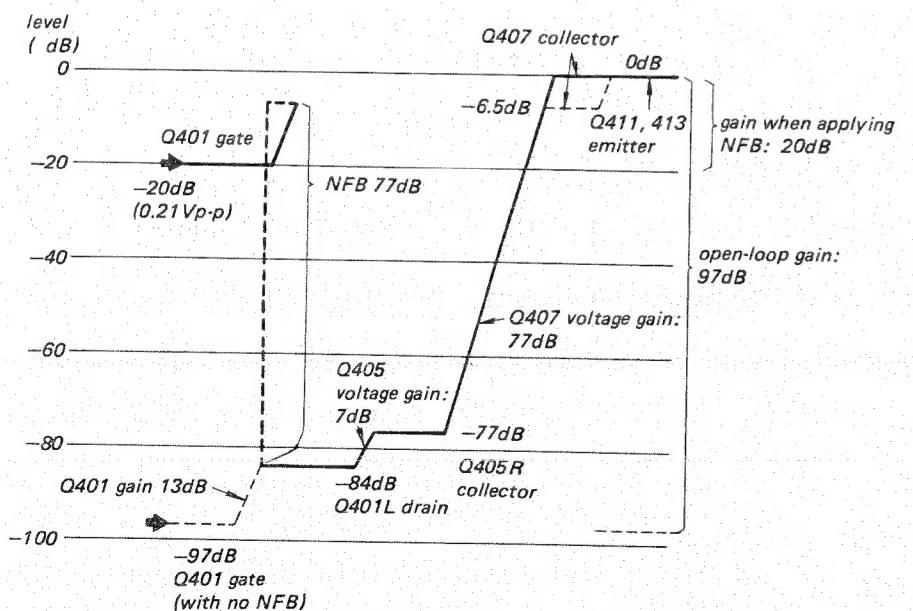

Fig. 12
- The level diagram is shown in Fig. 12.